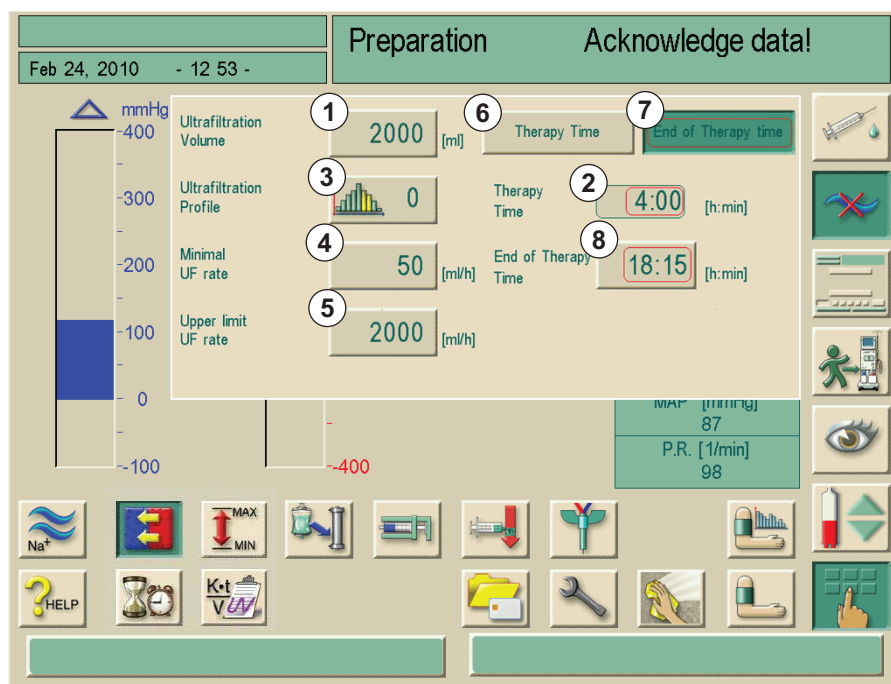

Fig. 5-15 "Ultrafiltration parameters" screen
1. Touch the buttons 6 and 2 in Fig. 5-15.
1. Touch the buttons 7 and 8 in Fig. 5-15.